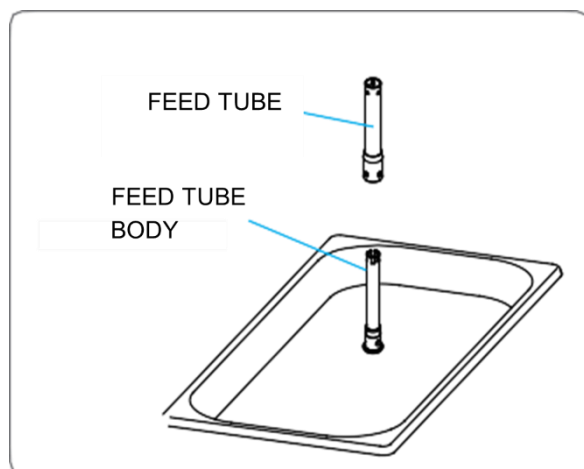

Figure 37
10. With sanitized hands, replace the feed tube into the mix hopper. (Figure 37)